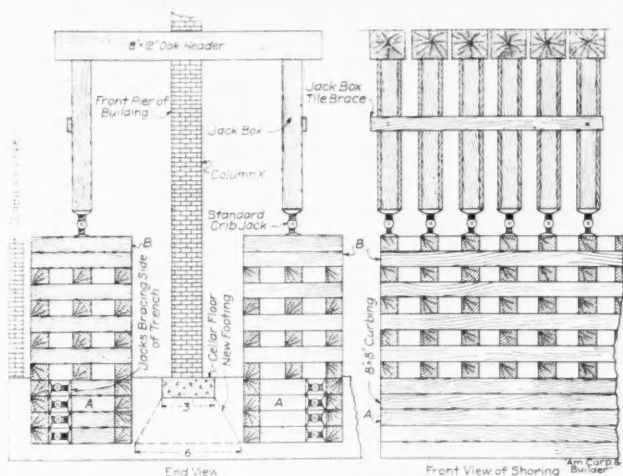

Fig. 2. Arrangement of Cribbing for Shoring Up Brick Wall.
The solid lines in Fig. 2 show the plan for a square corner per 1 foot run of the common rafter and for
all obtuse angles (where the angle of the plates rest at more than 90 degrees to each other) would fall inside of the plan for the square corner and just where the heel of No. 2 should rest for some desired angle, will furnish a real puzzle to the inexperienced and especially so when the angle is not that of a regular polygon. In this case, it is better to work to a scale of 1 inch to the foot for the full run of the common rafter; then the other measurement would be per scale from the corner to where the center of the foot of the first common rafter would naturally rest. This, of course, would change the figures to use on the squares; but they would be in the same ratio and the final results would be the same. The proportions shown in Fig. 2 are for the full scale for 1 foot. The figures then to use for the regular polygonal angles are as follows:
Pentagon, 8 $17/24$; hexagon, 6 $11/12$; heptagon, 5 $19/24$; octagon, 5; nonagon, $4\frac{3}{8}$; decagon, 3 $11/12$, and so on down. The more sides the polygon contains, the smaller the dimensions will be on the blade. In Fig. 2 we have shown but for one, the octagon as indicated by the dotted lines. These angles are determined by circular measure, as noted in degrees.
In this illustration, we have chosen the $\frac{3}{8}$ pitch (12 and 9) for illustration purposes. Square No. 1 is placed for the seat and plumb cuts for the common rafter and the cuts will be on the square as shown. The length of the work line from 12 to 9 is 15, and this taken on the blade of square No. 2 and 12 on the tongue, will give the side cut of the jack and the face cut across the roof boards to fit over the hip. The reason 12 is used on the tongue is not because it represents the run of the common rafter, but because it represents one-half the width of the side or the distance from the corner along the edge of the plate to the center of the side. See the plan in Figs. 1 and 2. Now, then, if the framing was for an octagon, the procedure would be just the same as shown in Fig. 2, except in the second application 5 should be substituted instead of 12.
Now, in order to carry the weight of walls and lower the footing to widen it, it was necessary to dig out pits down to the depth of new footing. In order to dig these pits for cribbing, we used 6 by 8-6 feet long for wall curbing, as shown in point (A), Fig. 2. This was done to prevent walls from settling and from